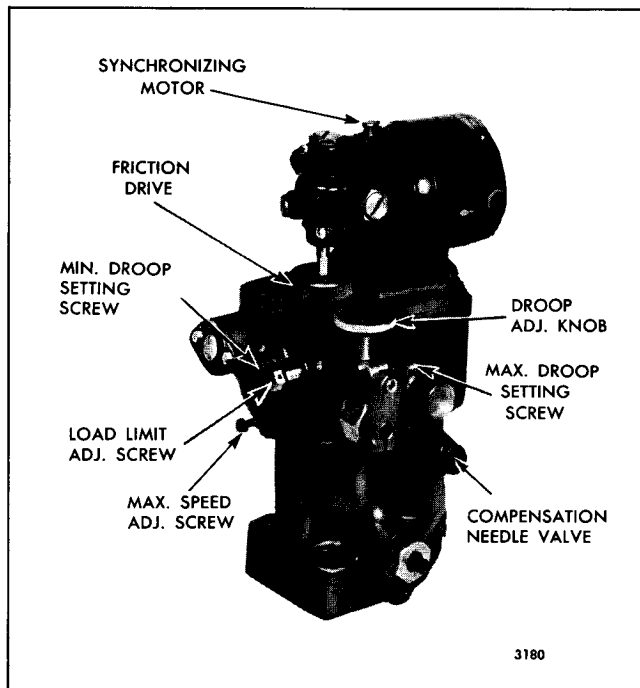

Fig. 11 - Typical Synchronizing Motor Mounting
1. Open the valve (see Fig. 11) two or three turns and allow the engine to "hunt" or "surge" for about one-half minute to bleed any air which may be trapped in the governor oil passages.
Some hydraulic governors are equipped with a reversible electric synchronizing motor (see Fig. 11) mounted on the governor cover.